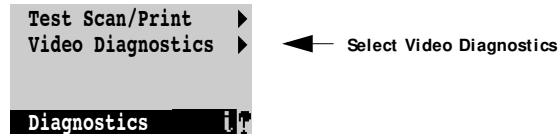

FIGURE 5-7 Video Diagnostics command
4. At the screen shown in Figure 5-7, select **Video Diagnostics**.